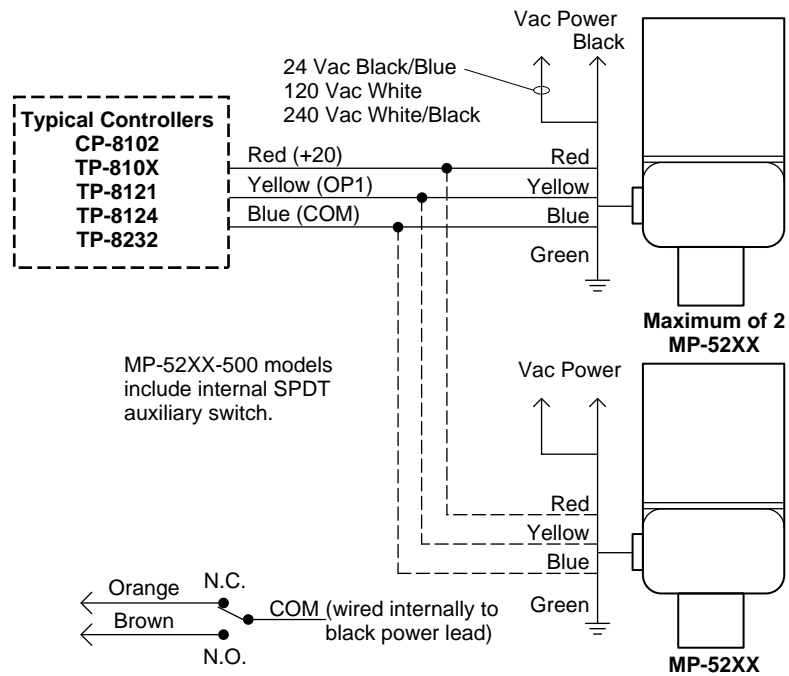
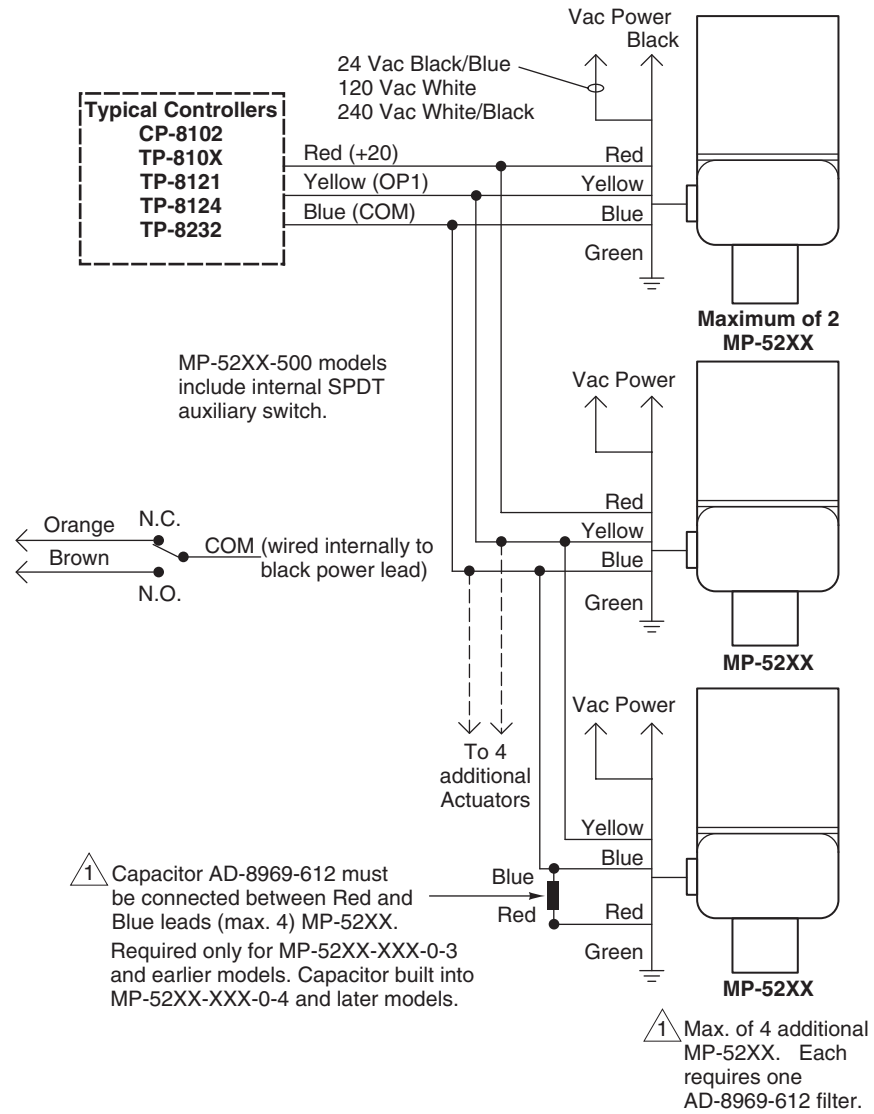
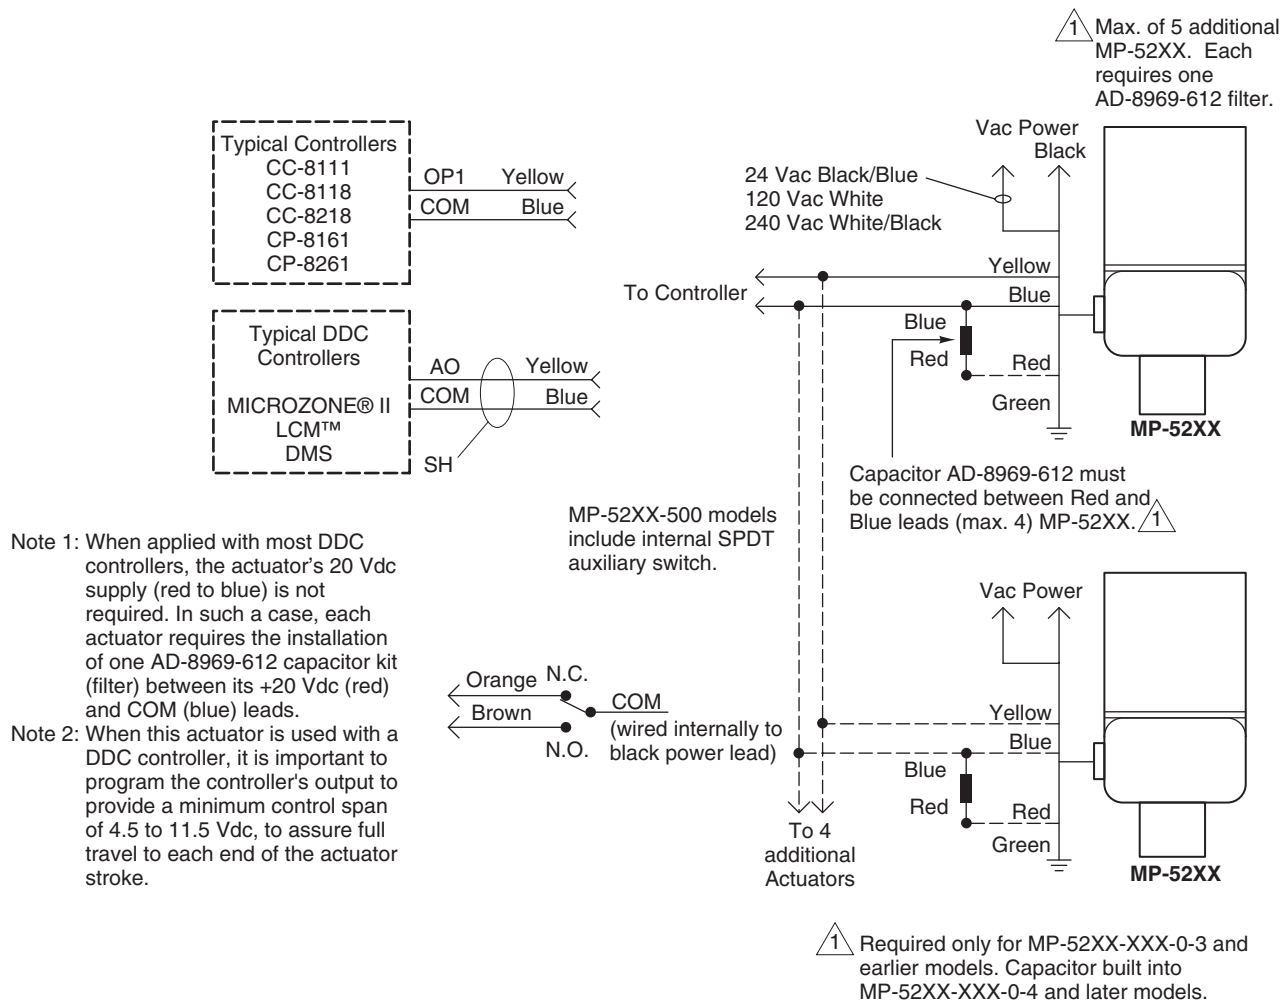

Figure-1 Typical Control Wiring for Up to Two MP-5200 Series Actuators to Controllers Requiring External 20 Vdc Power Supply.
Figure-2 Typical Control Wiring for More Than Two MP-5200 Series Actuators to Controller Requiring External 20 Vdc Power from the Actuator.
Figure-3 Typical Control Wiring For Up to Six MP-5200 Series Actuators to Controllers That Do Not Require 20 Vdc Power From the Actuator.
3. Make the required connections. Refer to Figure-1, Figure-2, or Figure-3 for a wiring diagram similar to your particular application.